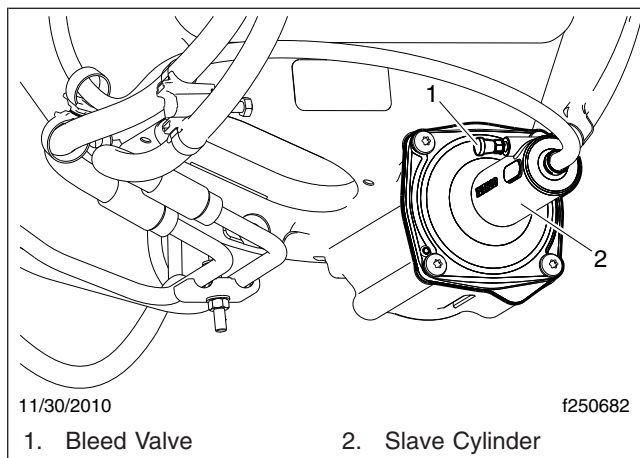

Fig. 4, Slave Cylinder, Hydraulic Clutch Control
- 4.2 Remove the cap from the bleed valve of the slave cylinder. See Fig. 4. On the valve, install a transparent drain hose connected to a catch bottle. The hose needs to fit the bleed valve tight enough so it does not fall off when fluid is pumped out.
3. Remove the cap from the bleed valve of the slave cylinder. See Fig. 4. On the valve, install a transparent drain hose connected to a catch bottle. The hose needs to fit the bleed valve tight enough so it does not fall off when fluid is pumped out.